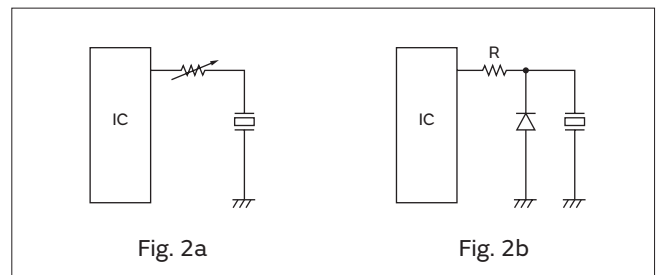

Fig. 2a
2. When driving the product by IC, please insert the resistance of 1 to 2kΩ in series. The purpose is to protect the IC and to obtain stable sound. (Please see Fig. 2a). Inserting a diode in parallel to the product has the same effect. (Please see Fig. 2b).